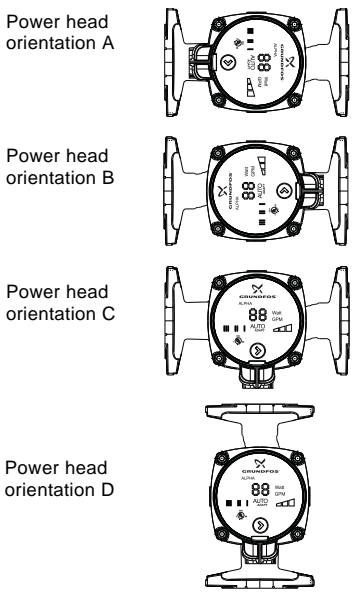

Fig. 4 Changing the power head position
Review fig. 4 for possible/permissible positions.
2. Loosen 4 mm screws and turn the pump head to desired position; see fig. 4.